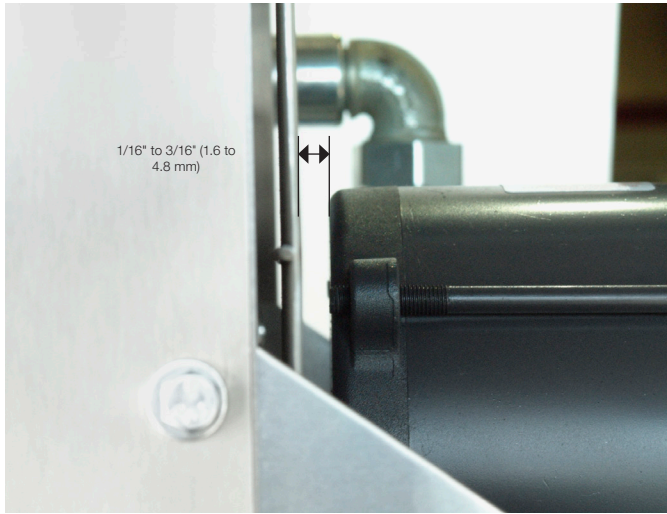

Figure 17
- 4.7 Simultaneously engage and tighten both ends of conduit #1 into enclosures. Leave a 1/16" to 3/16" (1.6 to 4.8 mm) gap between the motor and fan guard (see Figure 17, page 20). Adjust conduit #2 to center the fan in the shroud.